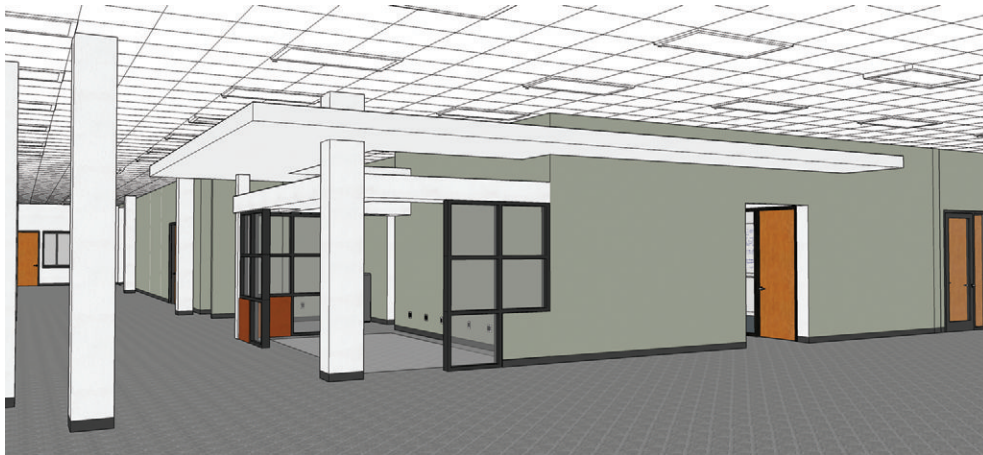

Figure 2.2 Office remodel. All 2D drawings describing this unique ceiling condition are dynamically linked to this 3D model.
- ☑ When you build a 3D model in SketchUp using *The SketchUp Workflow for Architecture*, you are simultaneously creating the construction documents. All 2D plans, sections, and elevations are dynamically linked to the 3D model. SketchUp allows you to think and design in 3D, which is the way your brain is wired to work. This is in sharp contrast to using other popular BIM software where you draft the construction documents, which in turn creates the 3D model. In SketchUp, you think and design in 3D; the presentation and construction documents are products of the design process. (See Figure 2.1 and Figure 2.2.)